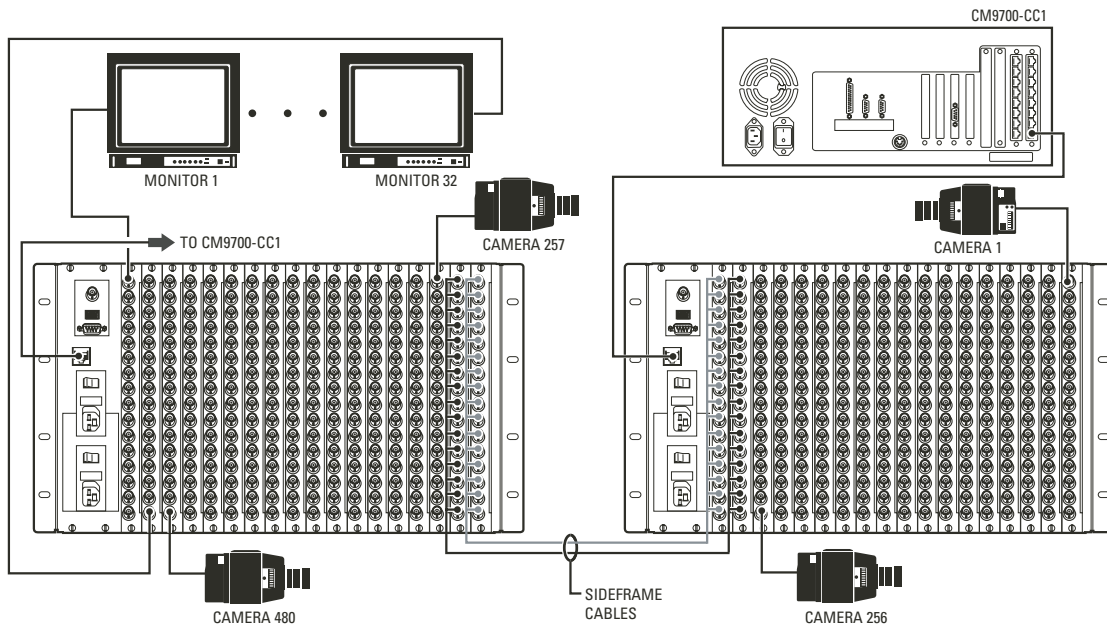
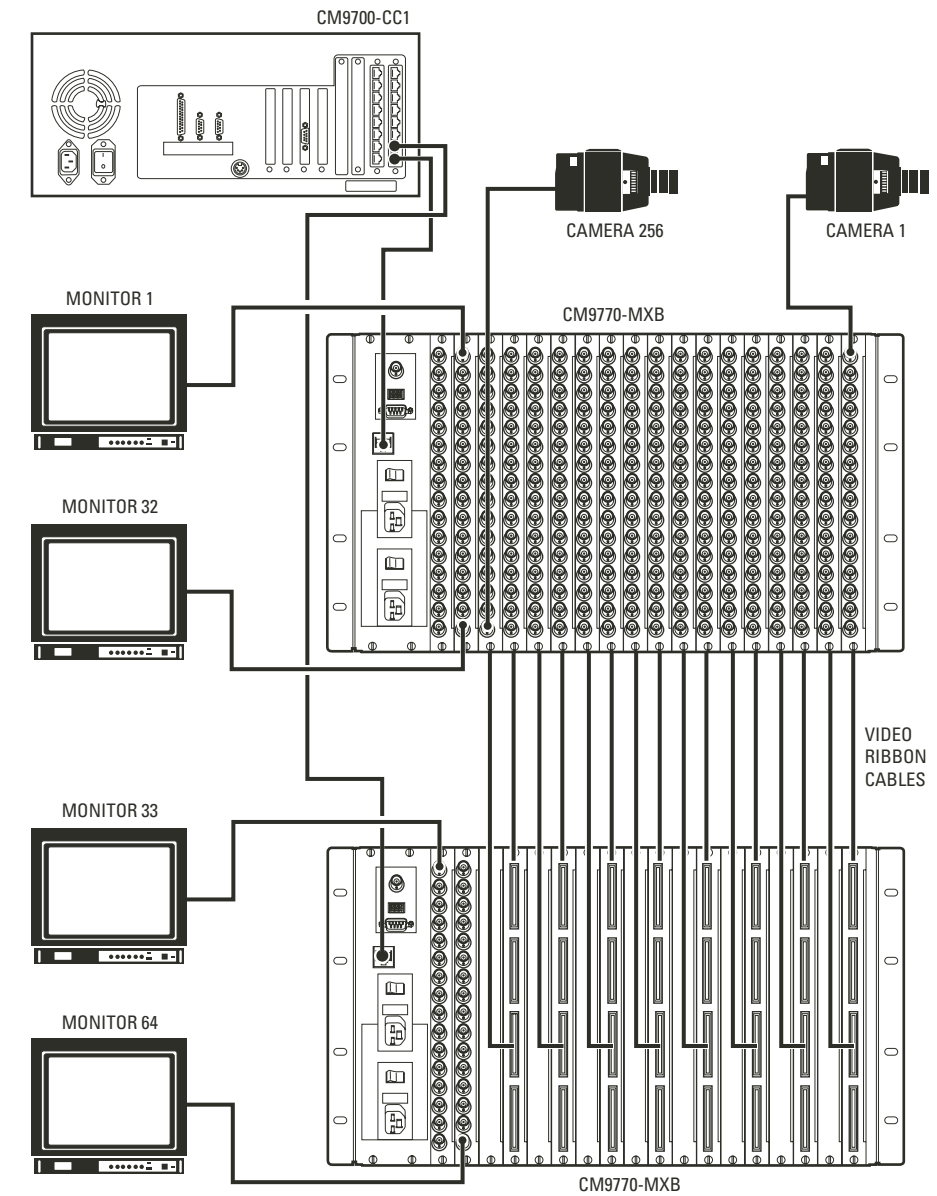

Figure 13. Sample System Using Sideframing from Bay to Bay
Figure 15. Sample Single-Node System with Downframing
Figure 13 and Figure 14 illustrate sample sideframing configurations. Figure 15 illustrates a sample downframing configuration.
- Sideframe Option A (refer to Figure 13):
- Downframing—To expand the matrix video outputs beyond 32, you can loop the video from the first CM9770-MXB to subsequent CM9770-MXB units for an additional 32 monitor outputs on each matrix bay. Refer to Figure 15.